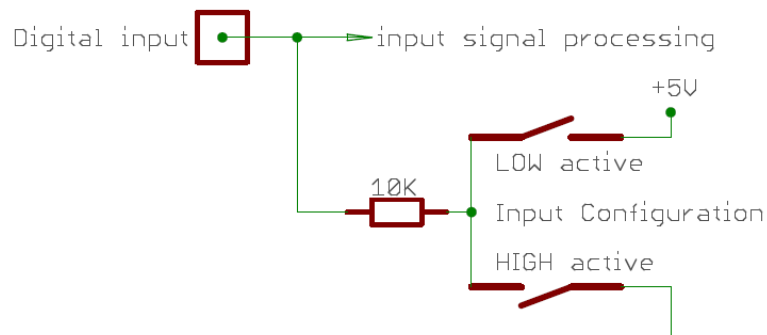

Fig. 28: Digital input circuit
*A pullup or pulldown resistor (10 kΩ) will be internally connected accordingly (see Fig. 28 below).*